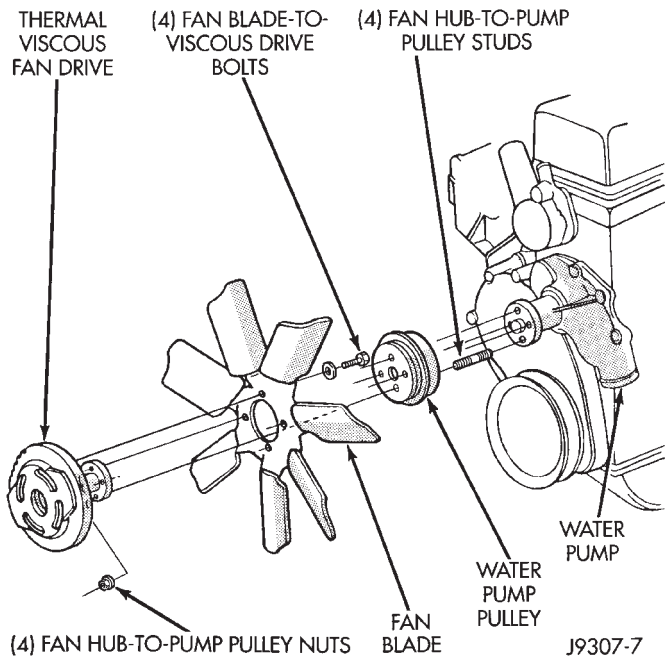
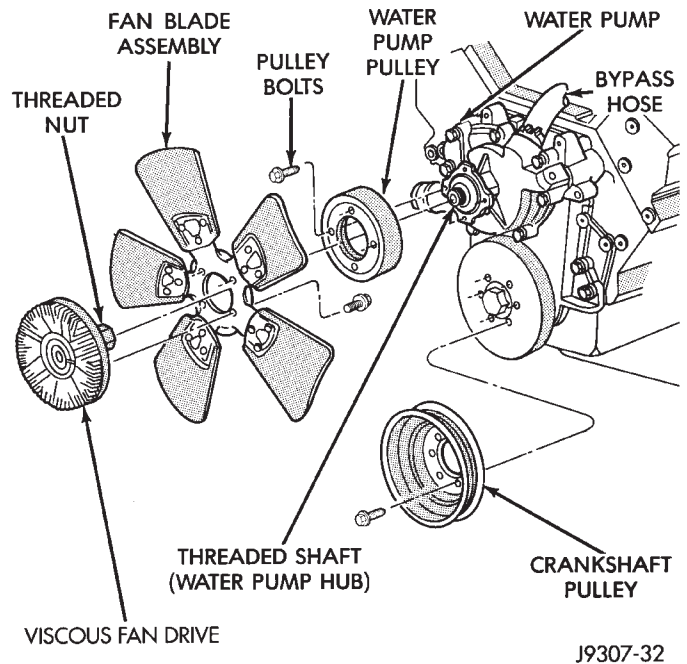

Fig. 46 Fan Mounting Nuts—4.0L 6-Cyl. Engine
Fig. 47 Fan Blade and Viscous Fan Drive—5.2/5.9L V-8 Engines
- (1) Disconnect the negative battery cable at battery.
- (2) Observe the previous WARNINGS and CAUTIONS.
- (3) Drain coolant from radiator. Refer to Draining Cooling System in this group.
- (4) **4.0L Engine:** Remove the four fan hub-to-water pump pulley mounting nuts (Fig. 46). Carefully remove the fan assembly from the water pump pulley and position to center of fan shroud. Fan belt removal is not necessary as the water pump studs will hold the pump pulley in position.
- (5) Do not remove fan/viscous fan drive assembly from vehicle at this time.
- (6) **5.2/5.9L Engines:** The thermal viscous fan drive is attached (threaded) to the water pump hub shaft (Fig. 47). Remove fan/viscous fan drive assembly from water pump by turning mounting nut counterclockwise as viewed from front. Threads on viscous fan drive are **RIGHT HAND**. A Snap-On 36 MM Fan Wrench (number SP346 from Snap-On Cummins Diesel Tool Set number 2017DSP) can be used. Place a bar or screwdriver between water pump pulley bolts (Fig. 47) to prevent pulley from rotating. Drive belt removal is not necessary for removal of fan drive.
- (7) Do not attempt to remove fan/viscous fan drive assembly from vehicle at this time.
(20) 4.0L Engine: Install the four nuts securing the fan assembly to the water pump (Fig. 46). Tighten nuts to 27 N·m (20 ft. lbs.) torque.
(21) 5.2/5.9L Engines: Install the fan/viscous fan drive assembly to the water pump.
(22) Rotate the fan blades (by hand) and check for interference at fan shroud.
(23) Be sure of at least 25 mm (1.0 inches) between tips of fan blades and fan shroud.
(24) Fill cooling system. Refer to Refilling Cooling System in this group.
(25) Connect battery cable at battery.